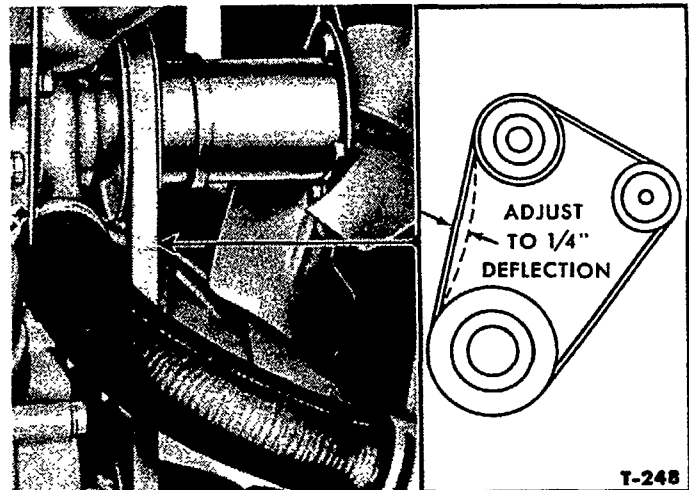

Figure 7—Fan Belt Adjustment
3. Install the fan and generator belt and adjust the belt tension to $\frac{1}{4}$ " deflection under 15-20 lbs pressure, Figure 7.
2. Move the generator either away or toward the engine, until $\frac{1}{4}$ " belt deflection is obtained under 15-20 lbs. pressure, Figure 7.